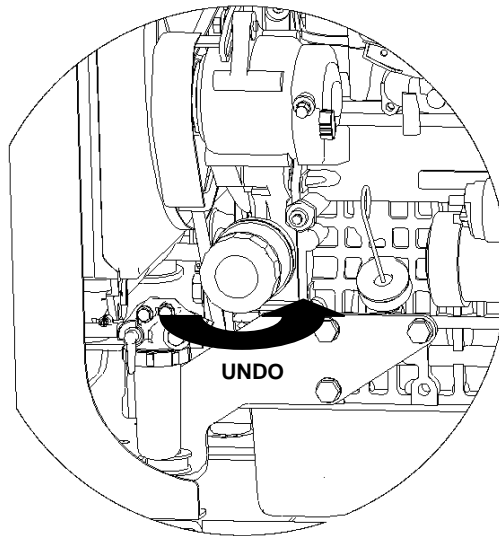

Figure 4: Engine Oil filter Removal
- Locate and remove the old engine oil filter by turning counter clockwise (Figure 4). Replace with the new filter provided.